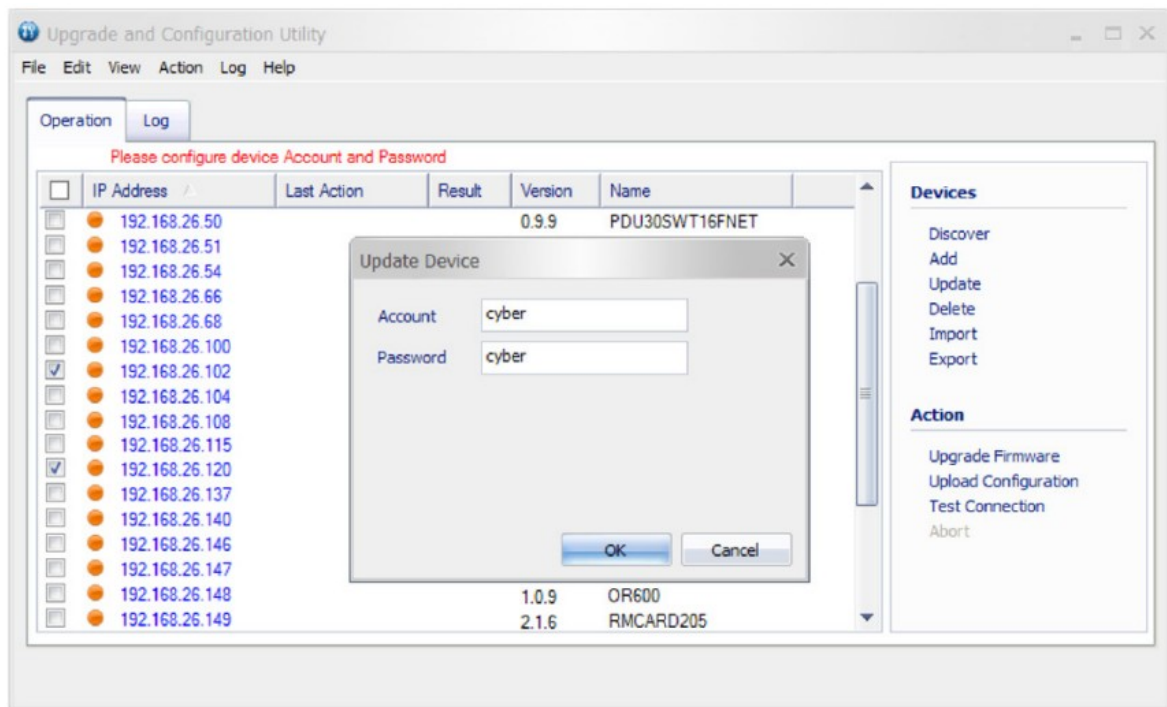

Figure 3
5. Make sure Account and Password are valid on selected devices (Shown in Figure 3).